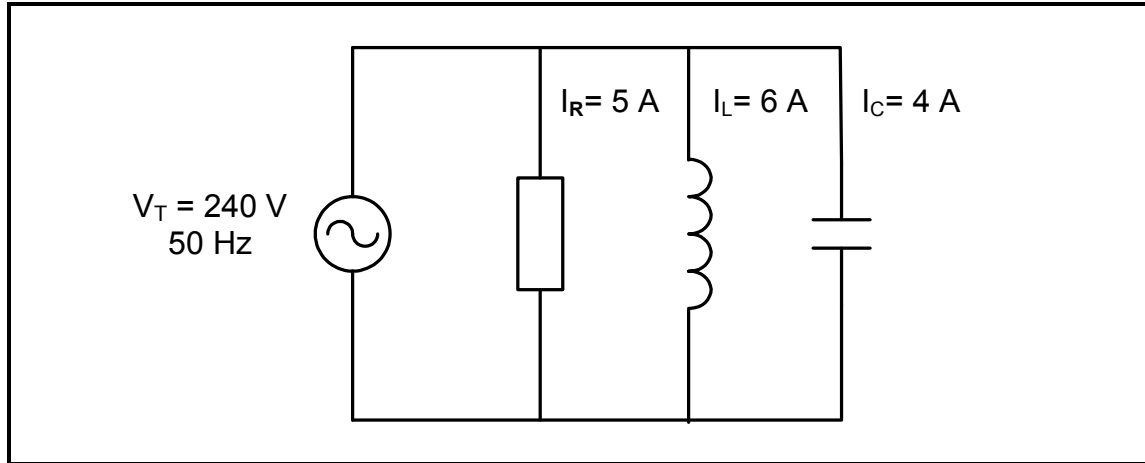

FIGURE 5.3: RLC PARALLEL CIRCUIT
- 5.3 The parallel circuit in FIGURE 5.3 below consists of a capacitor that draws a current of 4 A, an inductor that draws a current of 6 A and a resistor that draws a current of 5 A. The components are connected to a 240 V/50 HZ supply.